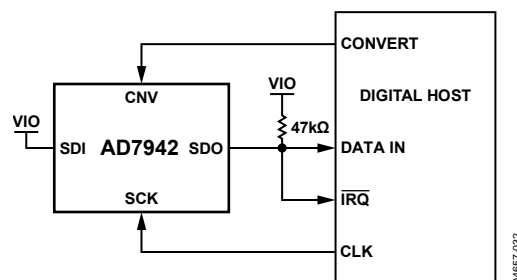
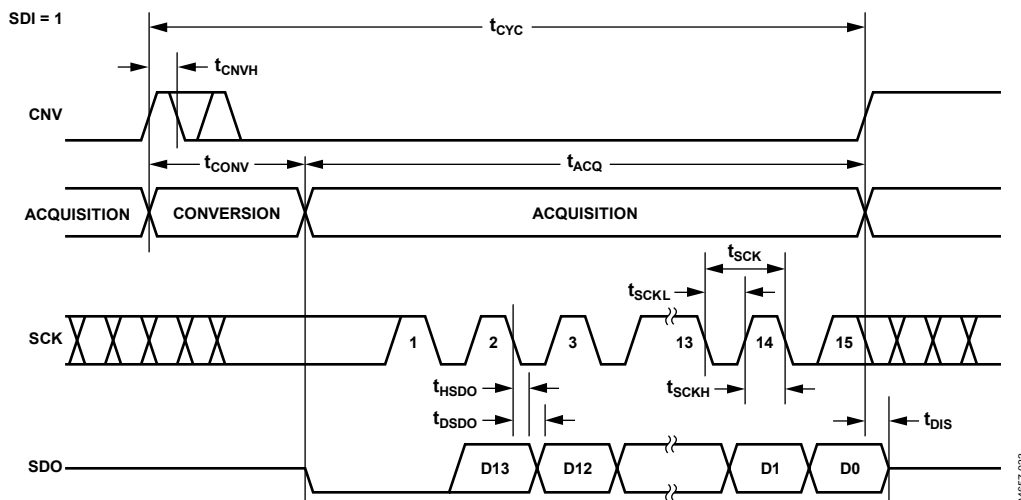
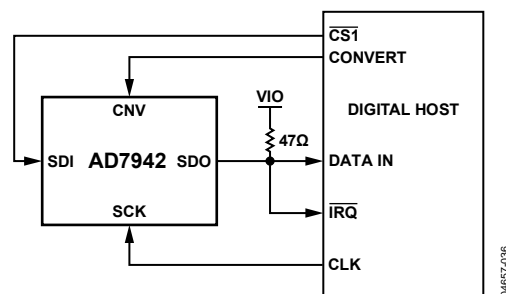
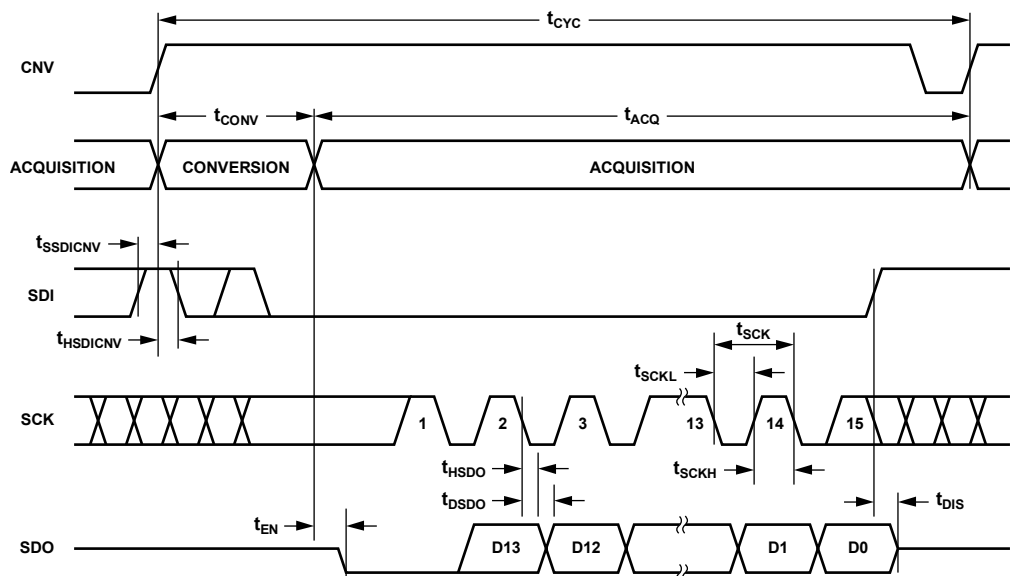

Figure 32. \overline{CS} Mode 3-Wire with Busy Indicator Connection Diagram (SDI High)
Figure 33. \overline{CS} Mode 3-Wire with Busy Indicator, Serial Interface Timing (SDI High)
Figure 36. \overline{CS} Mode 4-Wire with Busy Indicator Connection Diagram
Figure 37. \overline{CS} Mode 4-Wire with Busy Indicator, Serial Interface Timing
- In the $\overline{\text{CS}}$ mode, if CNV or SDI is low when the ADC conversion ends (see Figure 33 and Figure 37).
This mode is most often used when a single AD7942 is connected to an SPI-compatible digital host with an interrupt input. The connection diagram is shown in Figure 32 and the corresponding timing diagram is shown in Figure 33.
This mode is most often used when a single AD7942 is connected to an SPI-compatible digital host with an interrupt input and to keep CNV (which is used to sample the analog input) independent of the signal used to select the data reading. This requirement is particularly important in applications where low jitter on CNV is desired. The connection diagram is shown in Figure 36 and the corresponding timing diagram is given in Figure 37.